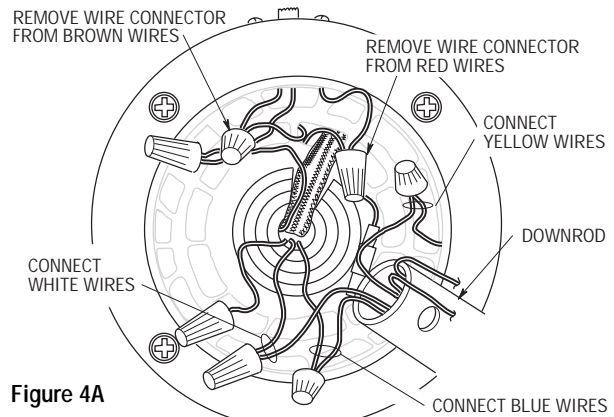

Figure 4A
7. Using wiring connectors (supplied), connect the white, blue and yellow wires from the downrod to the white, blue and yellow wires from the fan motor (Figure 4A and 6A). Wires must be connected color-to-color.
8. Remove the wire connectors from the red wires and the brown wires (Figure 4A).